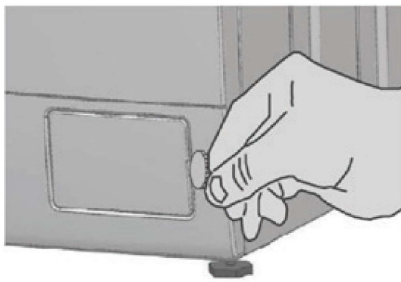

FIG. 1
- Unlock the hatch at the bottom of your washing machine (Fig. 1) using a coin.